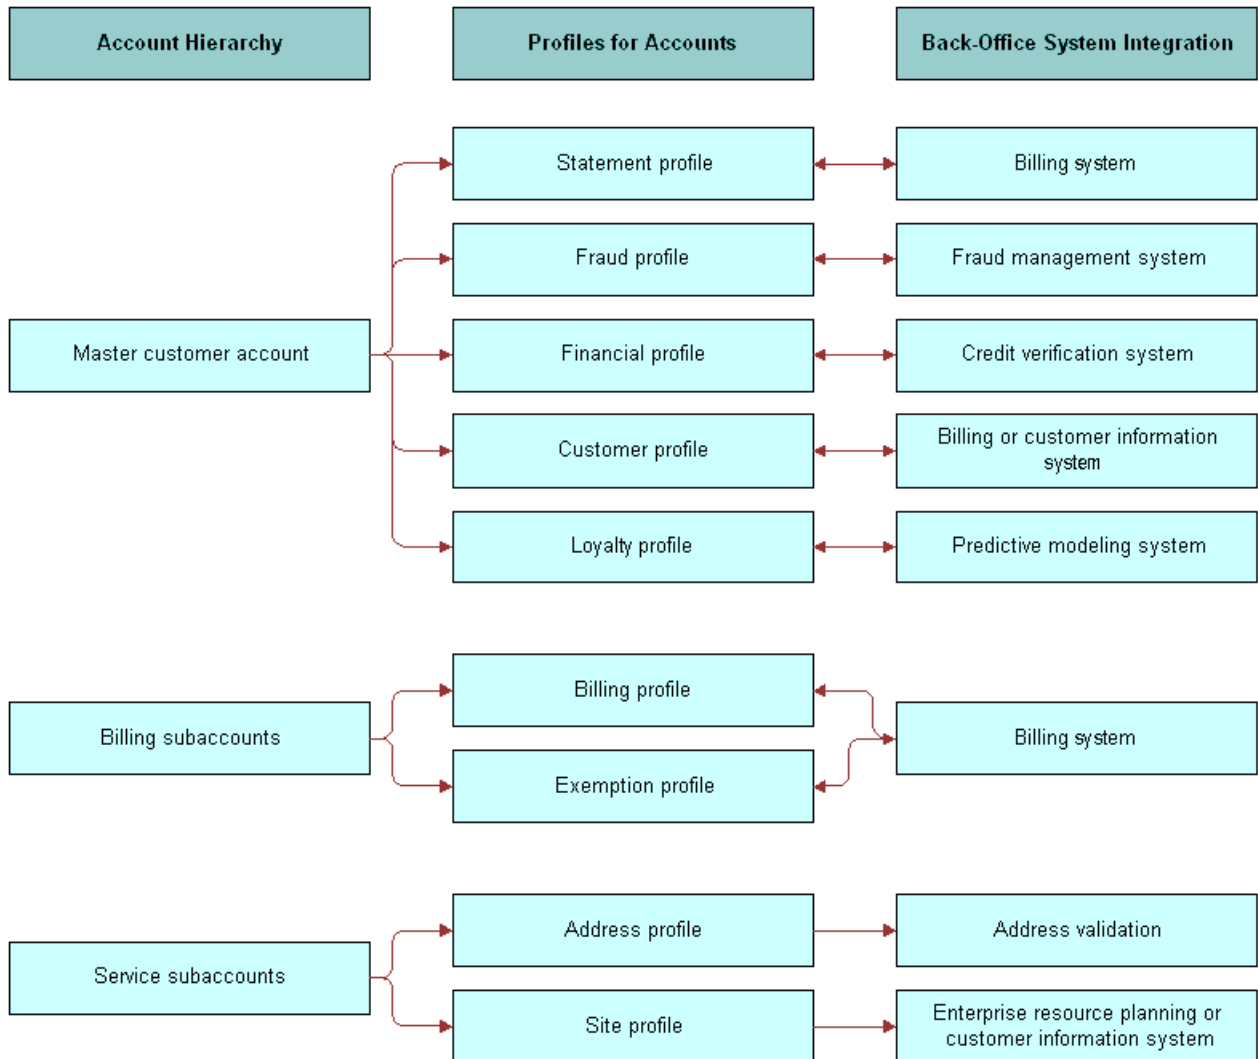

Figure 5. Interrelationships Among Accounts, Profiles, and Back-Office Systems
Figure 5 summarizes the interrelationship among accounts, profiles, and back-office systems.
**NOTE:** For simple residential customer accounts (those not separated into billing and service accounts), all profiles are directly associated with the customer account and not with subaccounts as shown in Figure 5.